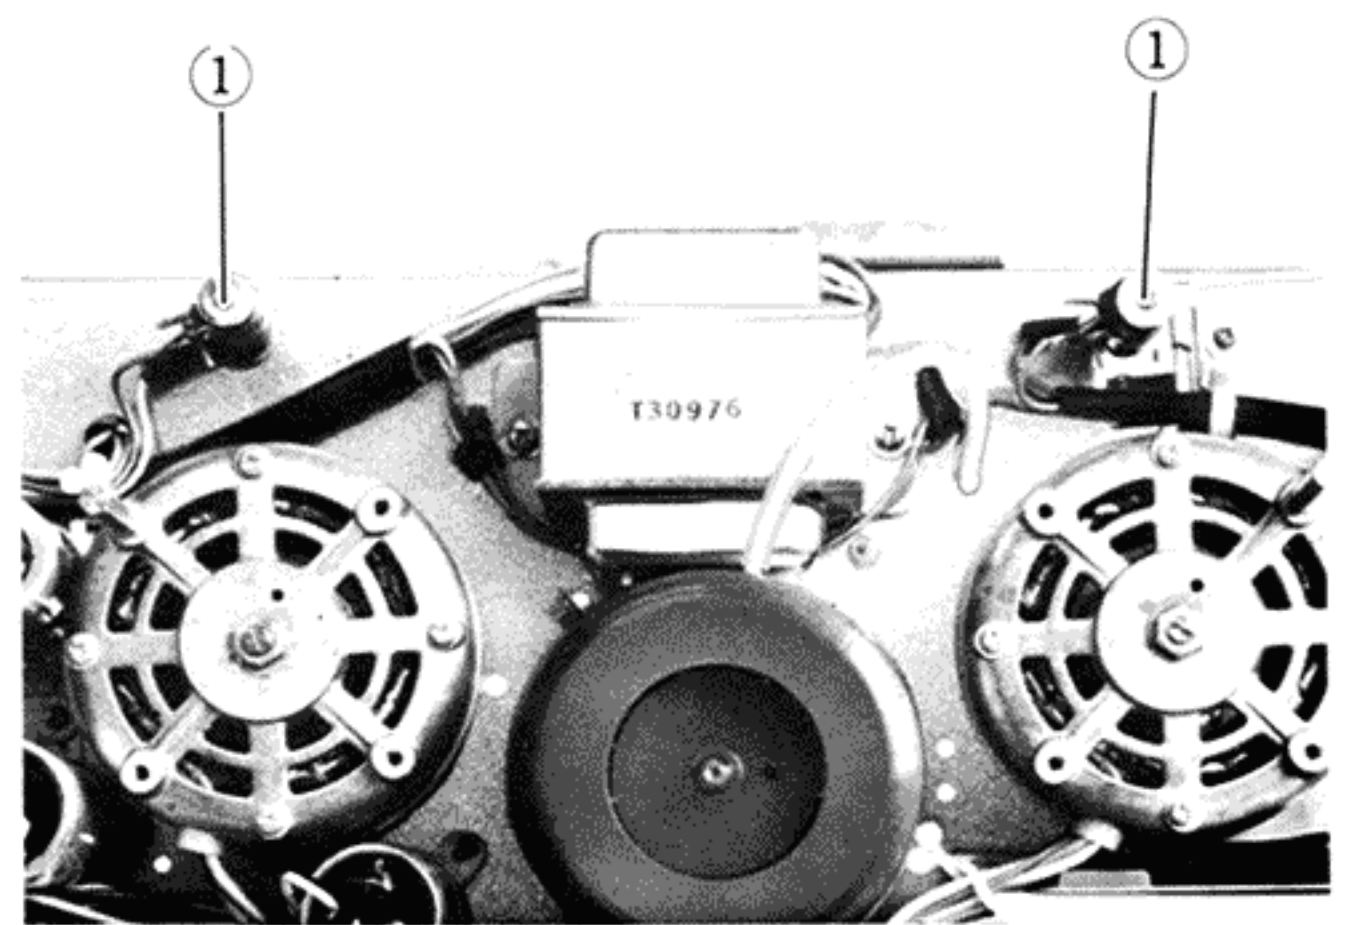

Fig. 18
Adjust with the wire-wound resistor ① shown in Fig. 18.